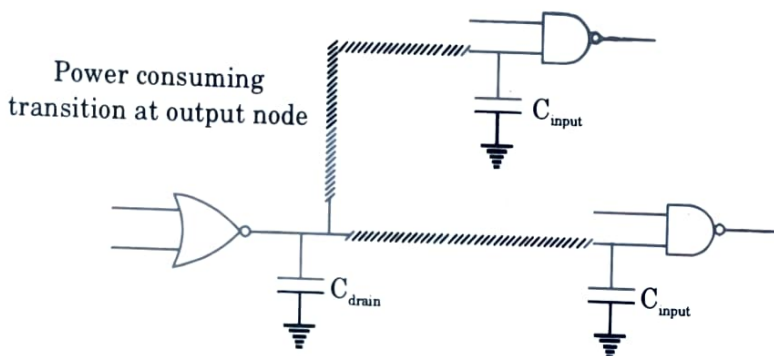

Fig. 4.12.1.
4. For the dynamic power dissipation during switching consider the circuit is shown in Fig. 4.12.1.
5. In Fig. 4.12.1 the two-input NOR gate driving two NAND gates through interconnection lines.